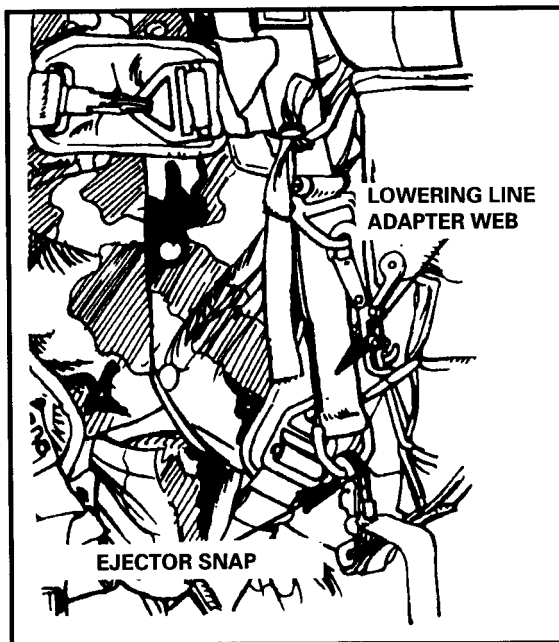

Figure 12-43. HPT lowering line attached.
- b. The lower tie-down tape is routed around the DMJP and the parachutist's left leg (Figure 12-43). A single-loop bowknot is tied on the front of the DMJP where it is easy for the parachutist to reach.